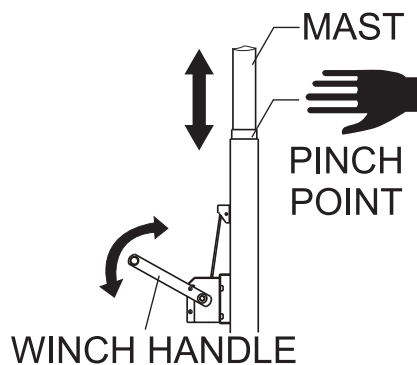

Figure 12. Mechanical Winch Handle
- Using the mechanical winch (Figure 12), **raise** the mast to the desired height. Turn winch handle clockwise to raise mast.